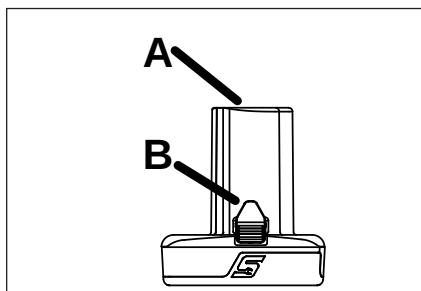

Figure 3: Battery Pack
1. Insert a fully charged CTB series battery into the base of the tool, as shown in Figure 3.